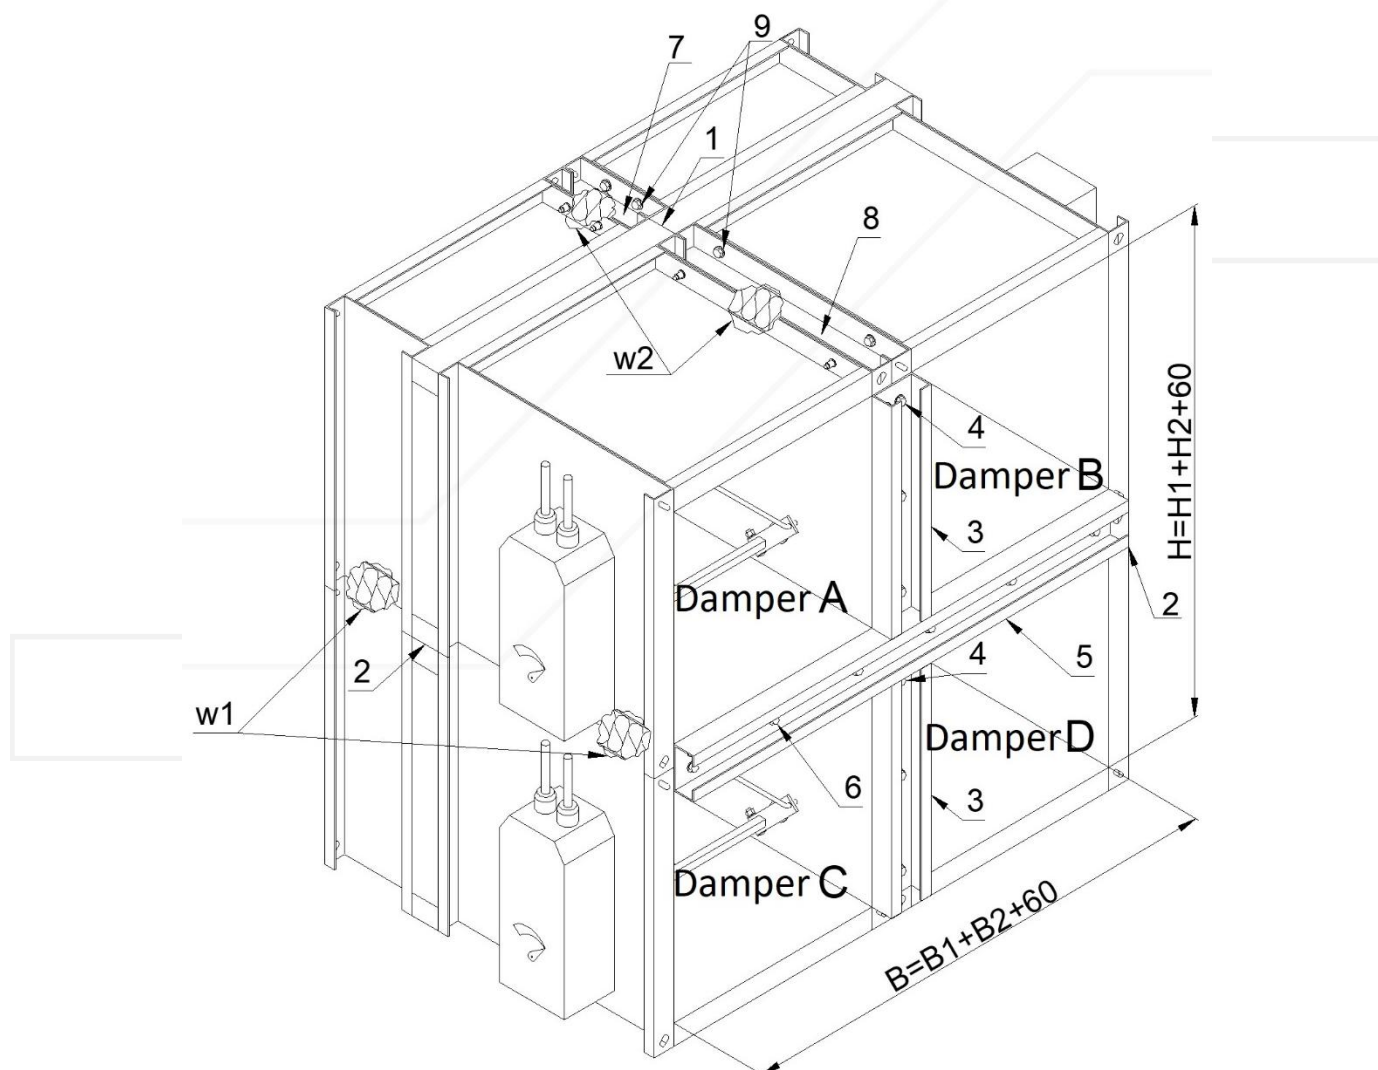

Figure 15. Battery made of four dampers KWP-P
- For vertical battery consisting of two KWP-P smoke control dampers: (B1+120)x(H1+H2+180) (Figure 15),